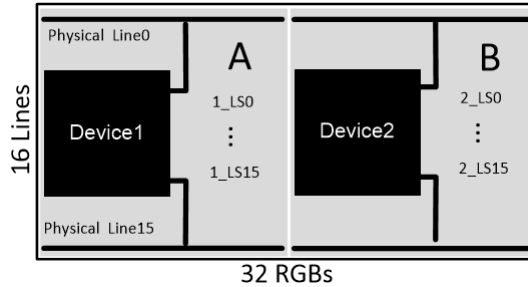

图 8-1. Two Devices in Independent Mode
**Figure 8-1** shows an implementation of a 16×32 RGB LED matrix using two TLC6984s in independent mode. Each device is responsible for its own 16×16 RGB LED matrix which means that all the data for section A is stored in device 1 and the data for section B is stored in device 2.